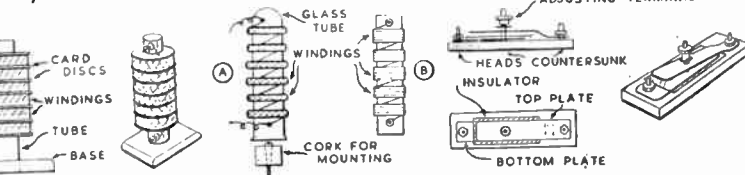

Fig. 3—Aerial or trimming condenser
Larger condensers can be made as shown at (B), which is similar to Fig. 3, except that no adjustment is provided. Such condensers can be used for quite a wide variety of purposes. It is possible to reduce the capacity, if desired, by turning the top plate a little aside so that there is less overlap with the bottom plate.